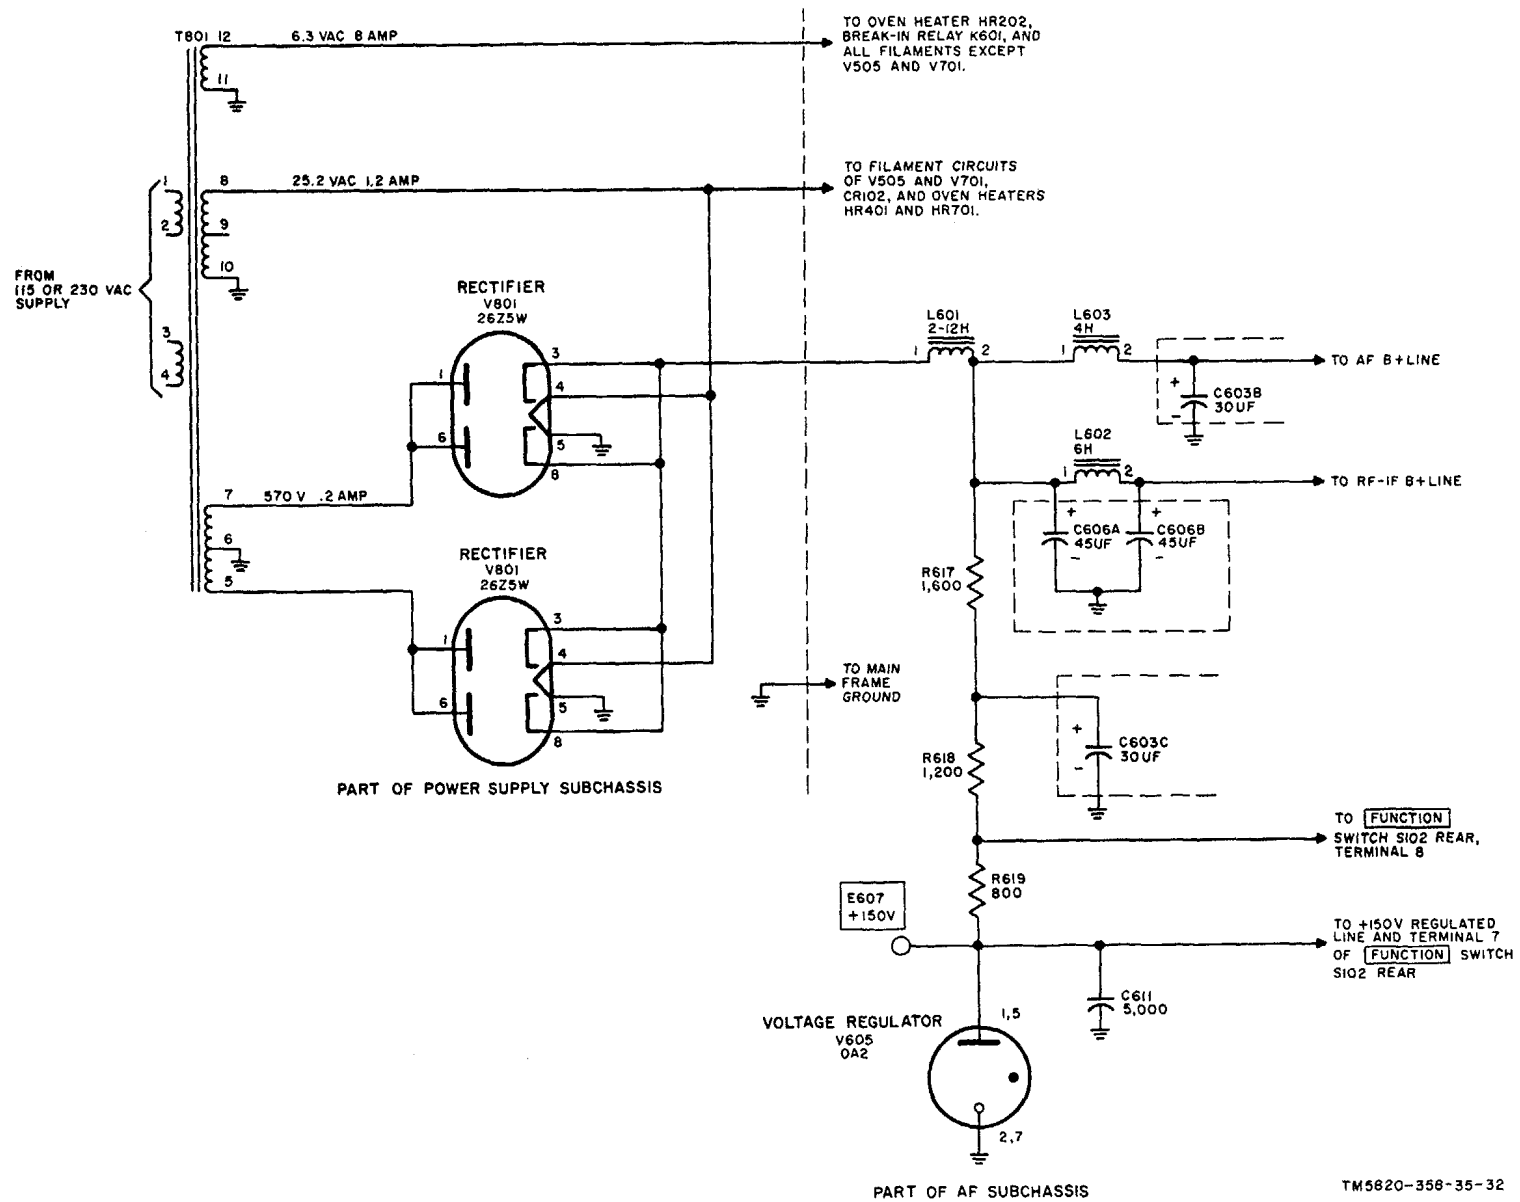

Figure 28. Power supply and main filter circuits, simplified schematic diagram.
28. Power Supply and Main Filter Circuits (fig. 28)